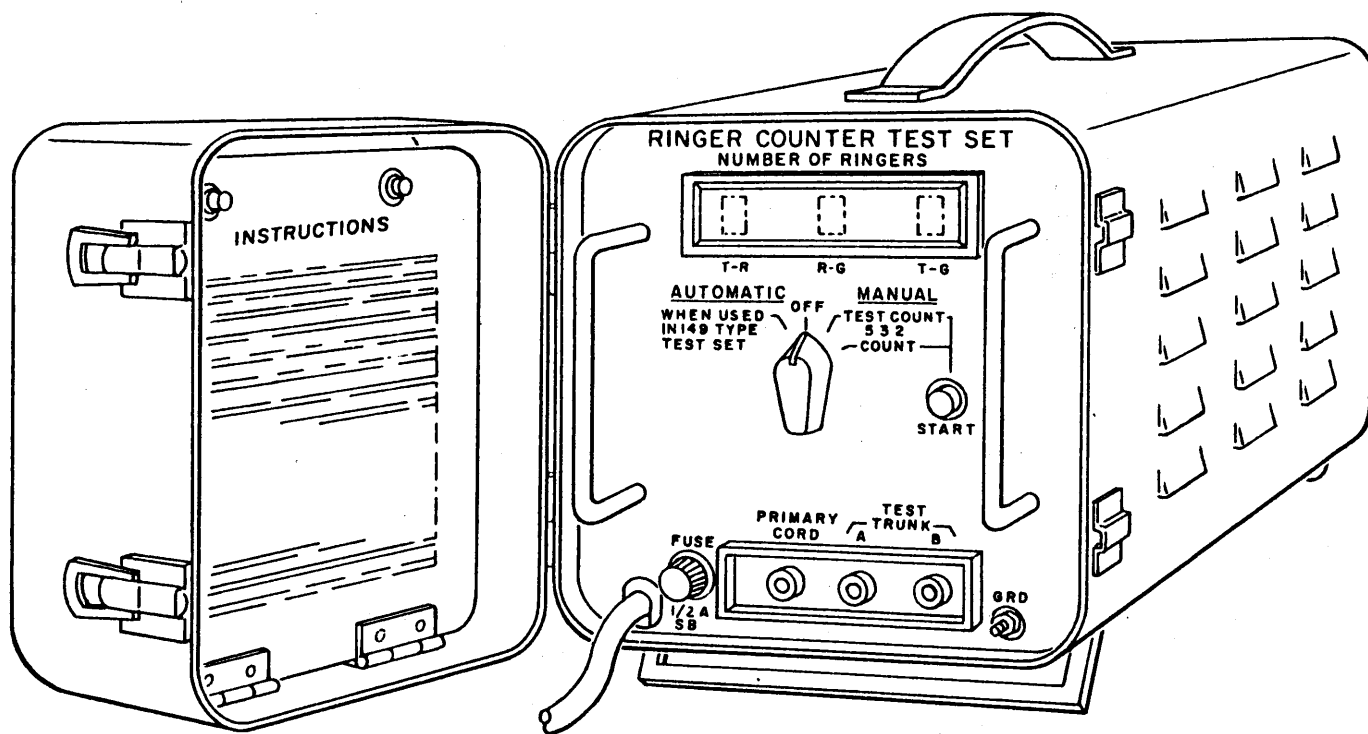

Fig. 1—150A Ringer Counter Test Set
**2.01** The 150A RCTS (Fig. 1) has the following design features: